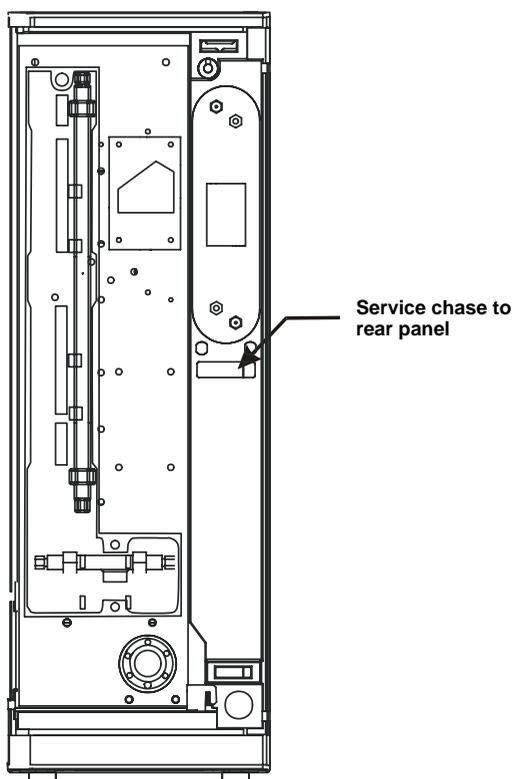

Figure B-37. Routing Cables and Waste Lines to the Rear Panel
1. Route the SRS waste line and cable (if present) and the cell cable through the service chase on the right side of the compartment (see Figure B-37).